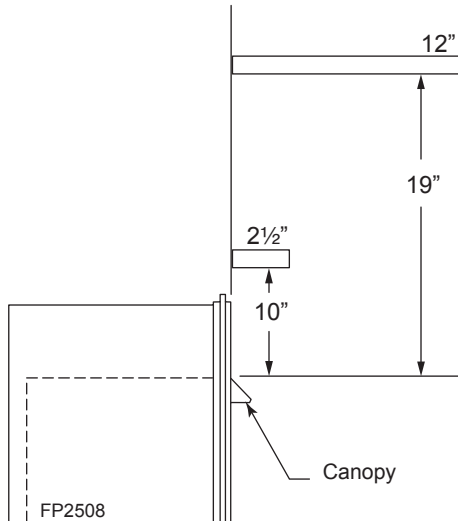
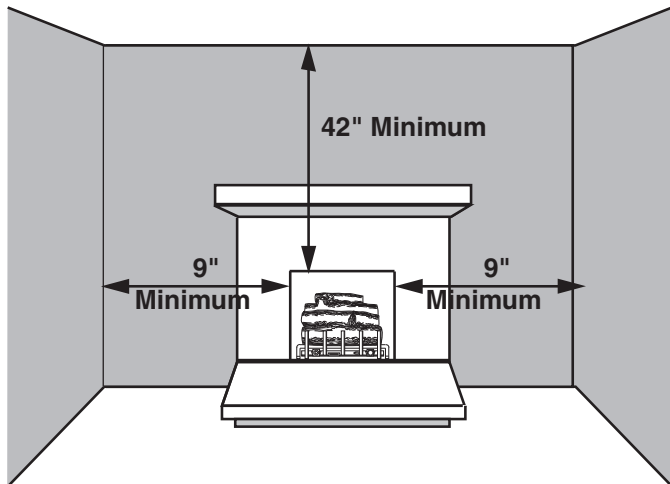

Figure 7. Mantel Clearances
Figure 6. Sidewall and Ceiling Clearances
Ensure that minimum clearances shown in Figure 6 and Figure 7 are maintained. Left and right clearances are determined when facing the front of the firebox.
**Sidewall Clearances** — The clearance from the inside of the appliance to any combustible adjacent wall should not be less than 9" for the VFC24 and VFC32. Figure 6
**Ceiling Clearance** — The ceiling must be at least 42" from the top of the firebox opening. Figure 6
**Mantel clearances** — The canopy supplied with the unit must be installed. If a combustible mantel is installed. It must meet the clearance requirements detailed in Figure 7
**! WARNING:** The dimensions shown in Figures 6, 7 and 8 are minimum clearances to maintain in installing this heater. Left and right clearances are determined when facing the front of the heater. Follow these instructions carefully to ensure safe installation. Failure to follow instructions exactly can create a fire hazard.